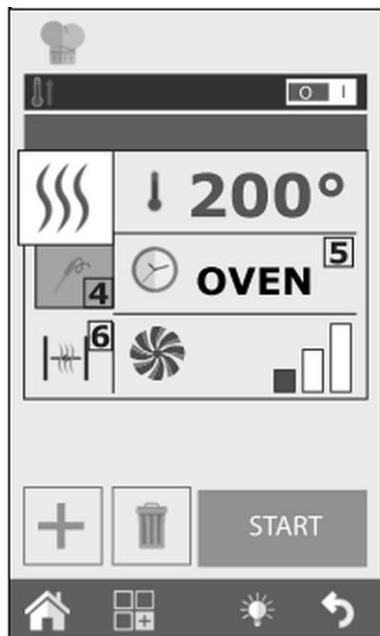

Fig. 12
By pressing key 5 (Fig. 12) you can set the timer (Countdown). The time is indicated in minutes format (1h 30' = 90 minutes). When the time elapses, an acoustic signal sounds and thermal processing stops.
Press key 6 (Fig. 12) to open or close the discharge valve.